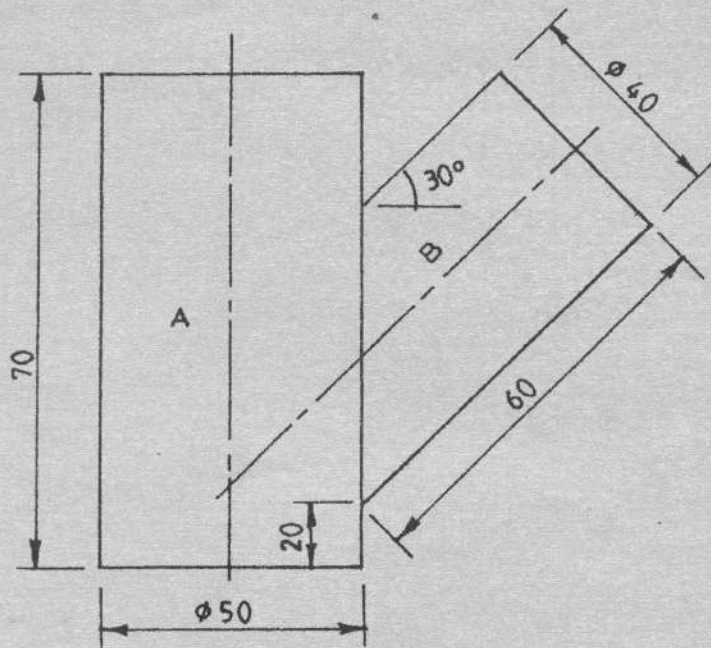

Fig. 3
7. Figure 3 shows the elevation of two dissimilar pipes meeting at an angle. Draw the elevation and complete the following using third angle projection: